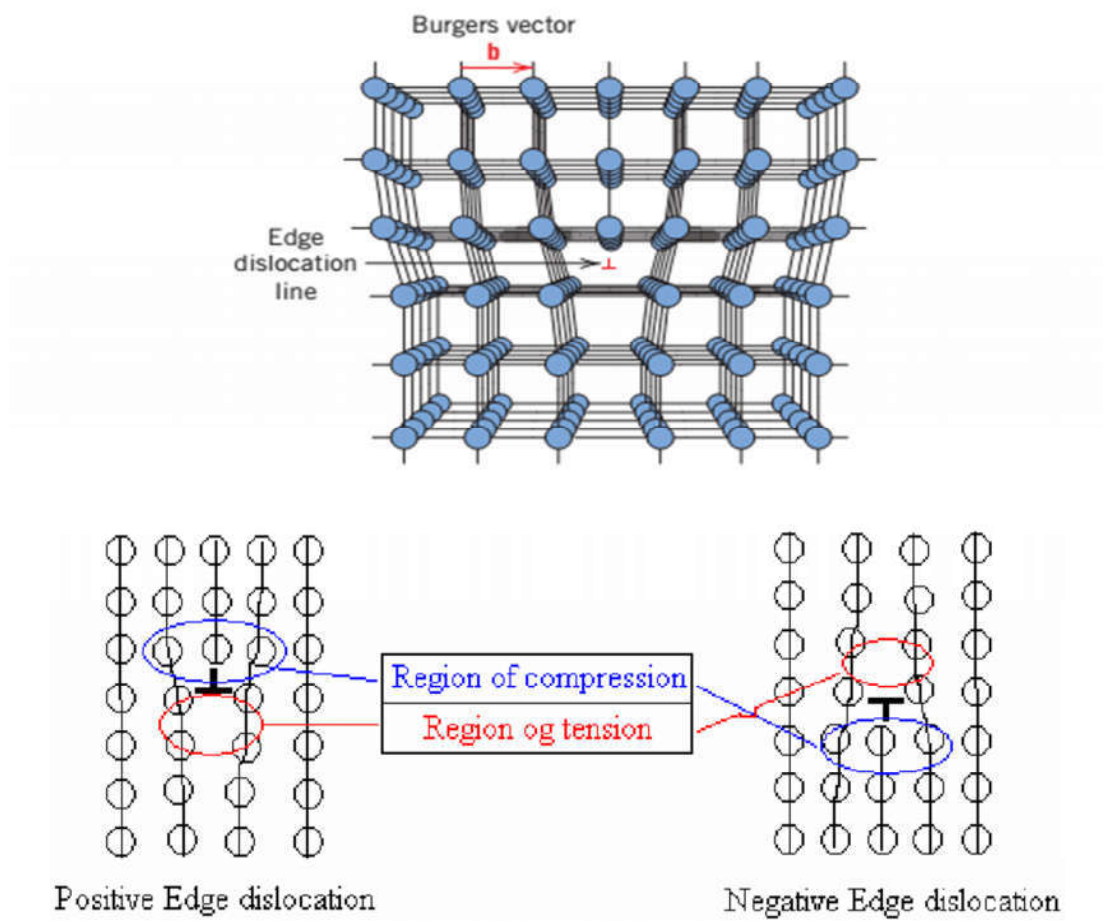

Figure 4. Edge dislocation
- 1) **Edge dislocation:** Extra line of atoms normal to paper. Burgers vector (**b**) is perpendicular to dislocation line. Its term is a \perp , as shown in **Figure 4**.